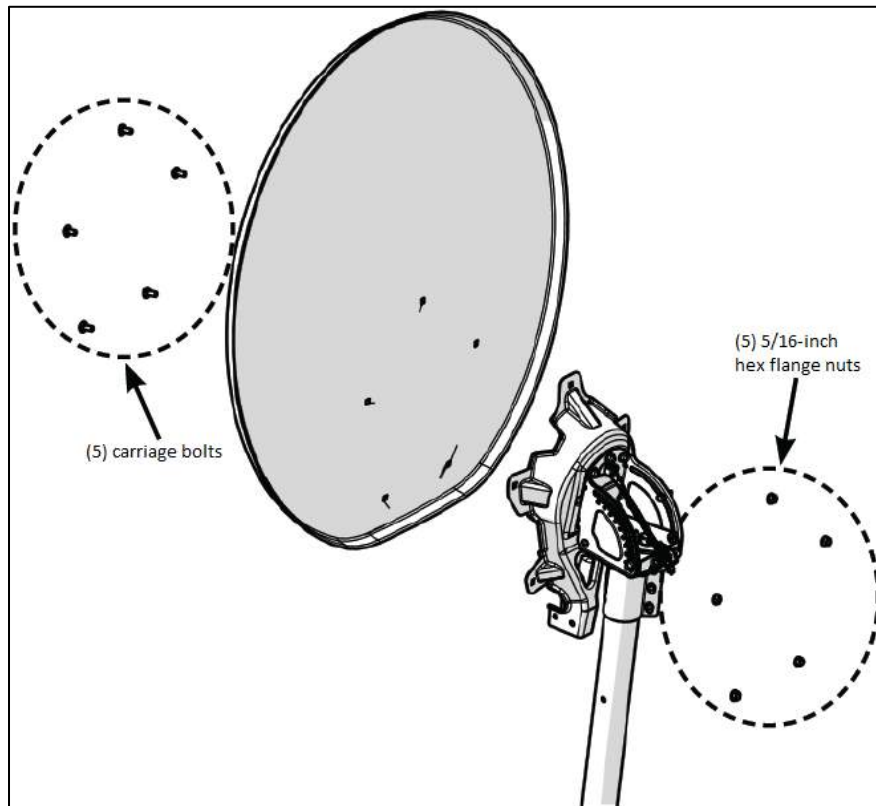

Figure 13: Attaching the antenna reflector
1. Line up the holes on the reflector with the holes on the reflector support, as shown in Figure 13.
2. Insert five carriage bolts ($\frac{5}{16}$ inch \times $\frac{3}{4}$ inch) into the holes in the reflector bracket and through the corresponding holes in the reflector, as shown in Figure 13.